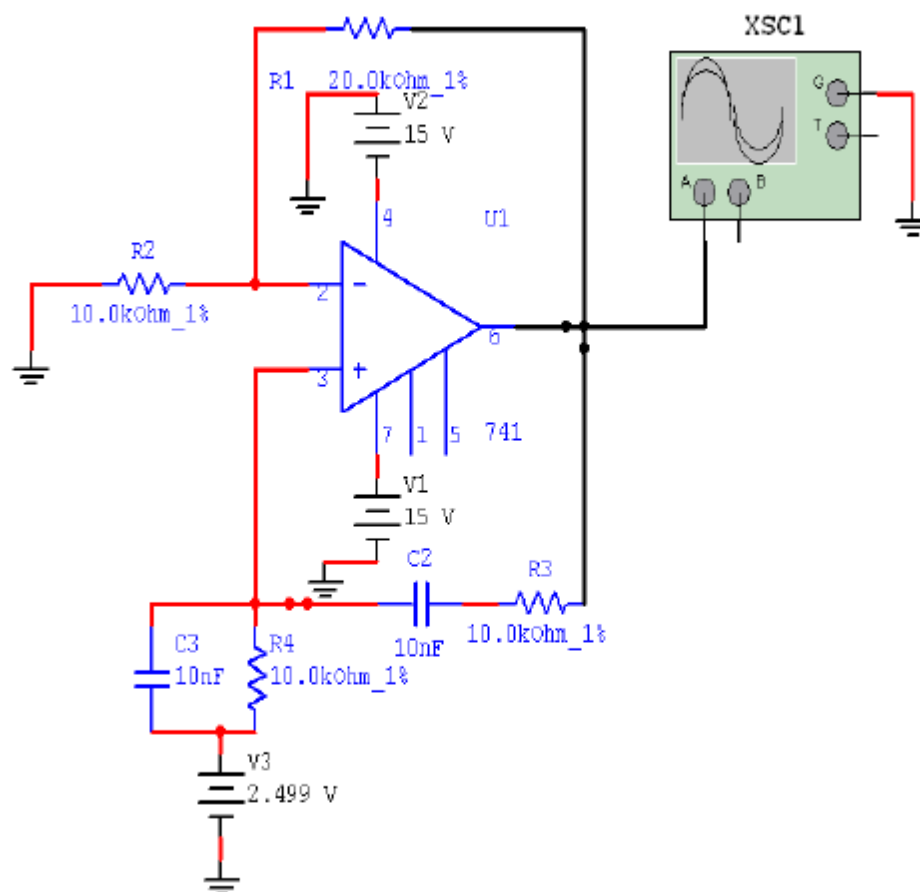

Fig.5 Wien Bridge Oscillator
- Construct the circuit shown in Fig.5.